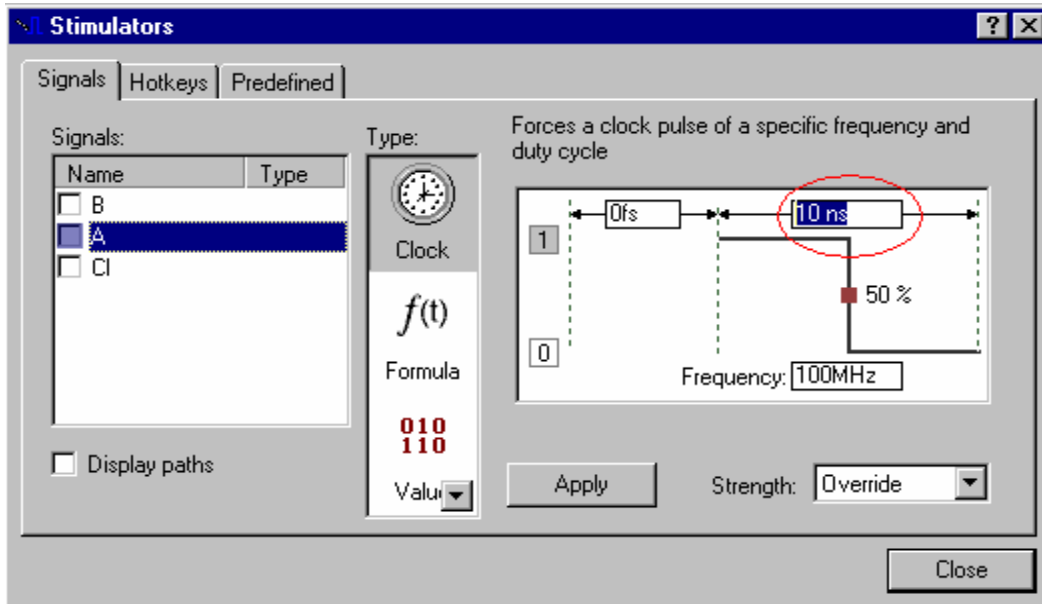

Figure 34
10. With the Stimulators window still opened, you can set additional signals by clicking the signals in the left side of the waveform. Once you have added all three input signals (i.e. A, B, and CI), choose a clock period of 10 ns for A by entering the time in second box from the left at the top of the window (see Figure 34). Click the Apply button.